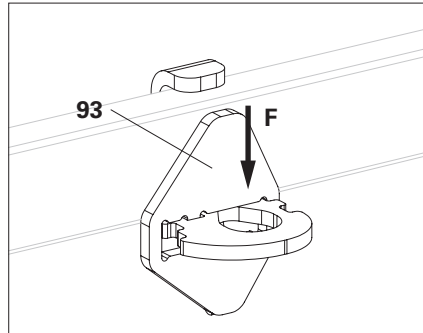

Fig. A11.06
- $F_{amm.} = 1.67 \text{ kN}$ (Fig. A11.06)